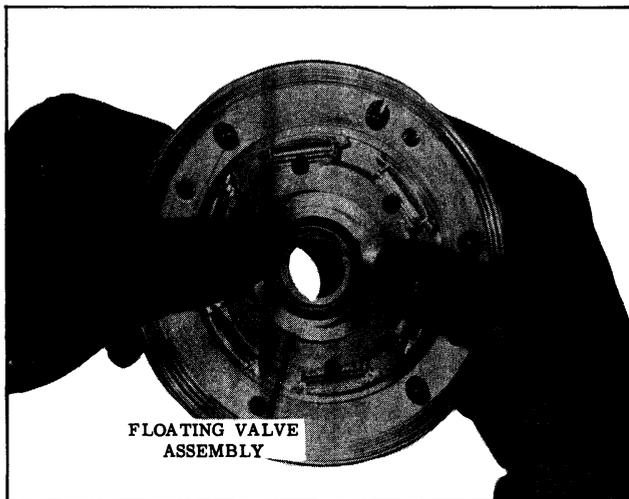

Fig. 7-27 Installing Floating Valve Assembly
2. Push the floating valve assembly into the vacuum piston as shown in Fig. 7-27.